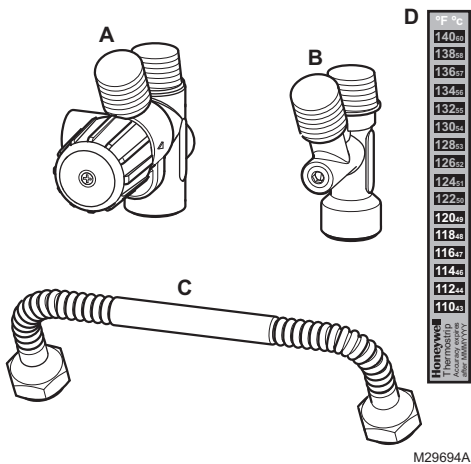

Fig. 1. Mixing valve kit contents.
Included in this box (see Fig. 1)
8. Remove all components from the AMX300 mixing valve kit box and check that all required components are included. The required components are: AMX300 mixing valve, cold water tee, flexible metal connector, thermostrip and installation instructions (see Fig. 1).